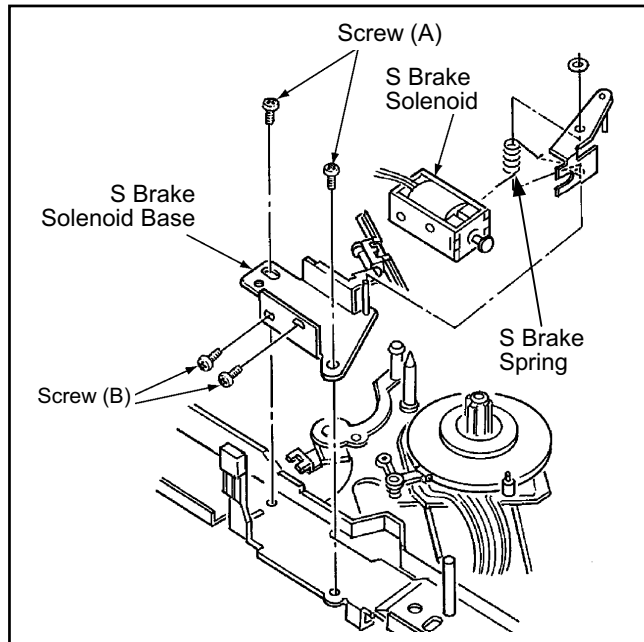

Figure 2-20-1
2. Unscrew the 2 screws (A) as shown in figure 2-20-1, and remove the Supply Brake Solenoid Base Unit.
3. Unscrew the 2 screws (B) as shown in figure 2-20-1, and remove the Brake Solenoid from the Supply Brake Solenoid Unit.